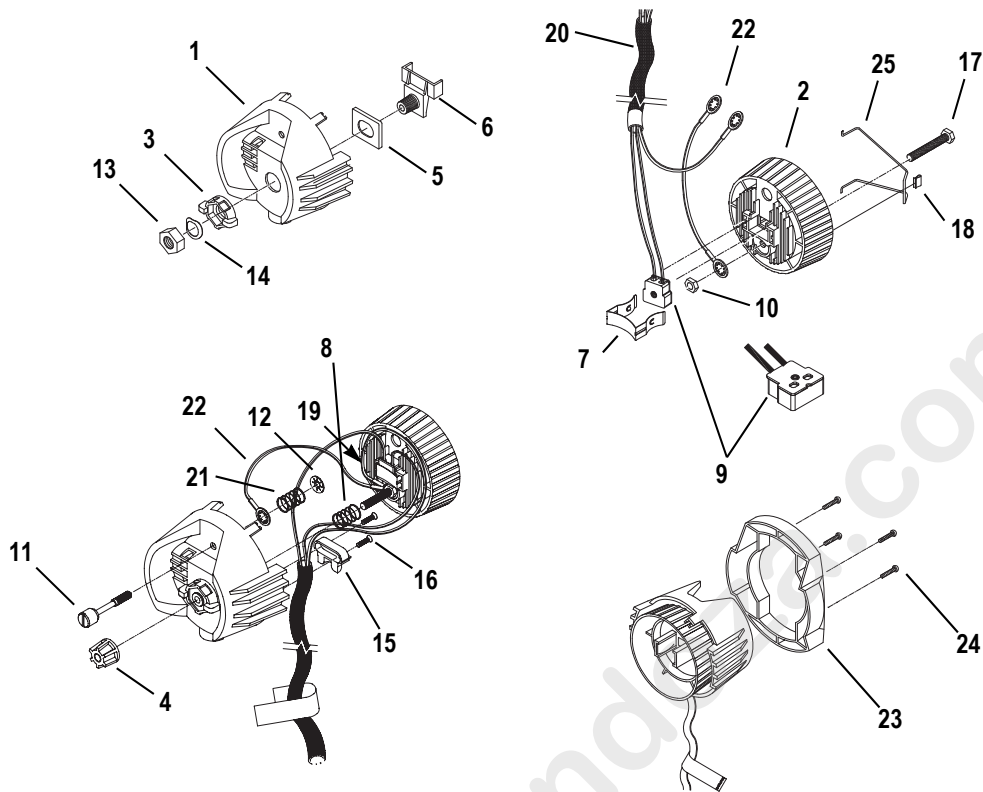
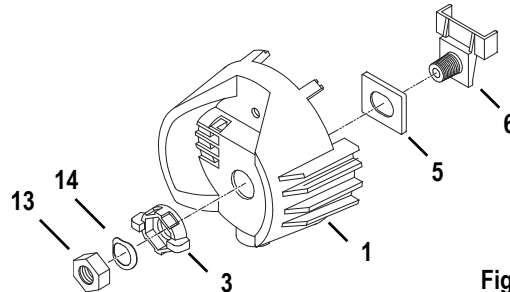

Figure 3
Figure 6
- Step 16: Install the bushing cup (5) into the housing socket casting (1) as shown in Figure 6. The cup should slide smoothly up and down, but not side to side.
- Step 17: Insert the threaded end of the index hub (6) through the holes in the bushing cup and the back of the housing socket casting (1).
- Step 18: Slide the X-Y knob (3) over the exposed index hub bolt (6), then insert the wave washer (14) on the bolt and secure with the 9/16 hex nut (13). Hand tighten the X-Y knob (3).
- Step 24: Using the four screws (24), attach the handle (23) to the lamp socket assembly. See Figure 3.
- Step 25: Place the compression spring (8) on the protrusion on the inside of the index hub (6).
- Step 26: Insert bolt (17) through spring (8) and through the index hub (6) of the housing socket (1), joining the two castings. Make sure wires are not pinched between the two pieces.
- Step 27: Before proceeding, check again to make sure the wires are still positioned as indicated in Figure 6. Adjust if necessary.
- Step 28: Press the two castings together firmly so the bottom of the light baffle (2) sits on top of the cable clamp (15), then install the X-Y lampset (3) and Z lamp knob (4). Hand tighten the knob all the way to the right.